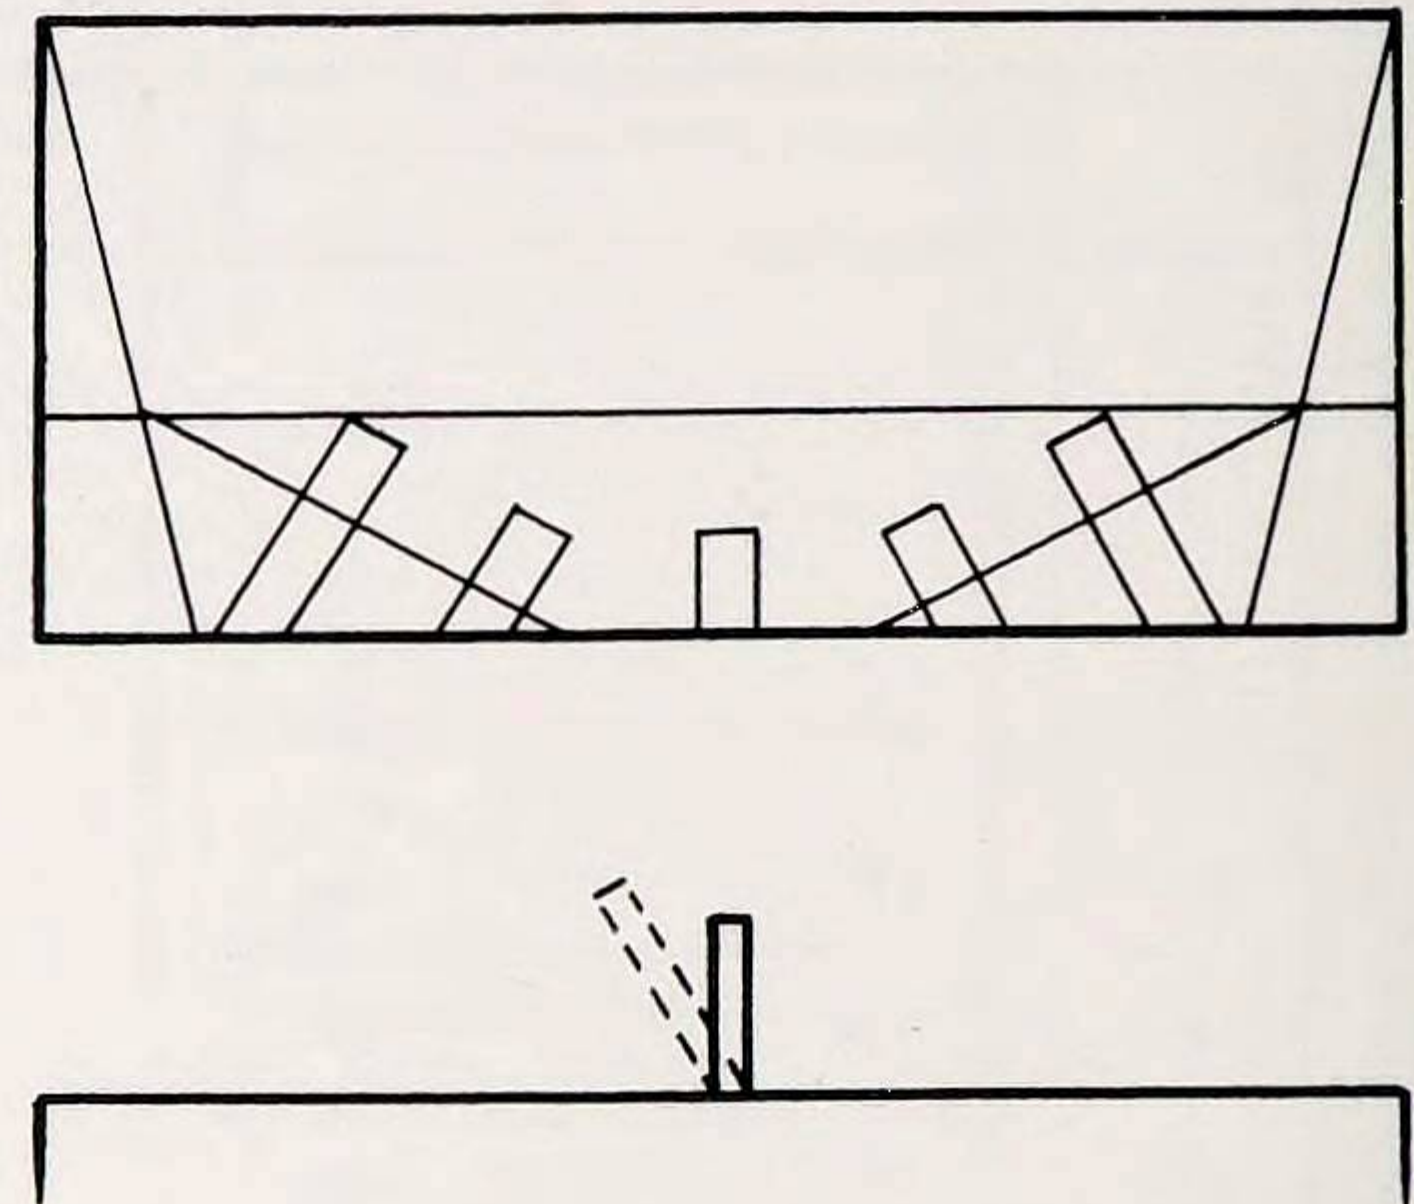

Fig. 2 Cutting the grooves with a table saw, passing the square block over the blade while working against a fence
2. Before finally shaping, cut the five grooves. One way that this can be done is with a saw, preferably a circular or table saw. The blade can be angled to the table or the saw base, so it is easiest to leave the base square and make the grooves by taking a series of five cuts in the sequence – in the centre and in the two inside and two outside grooves (Fig. 2). This process can also be carried out with a router, but here it is not possible to angle or cant the cutter relative to the router base. Therefore make the centre cut, then make the angled faces so that you can rout the two grooves either side of